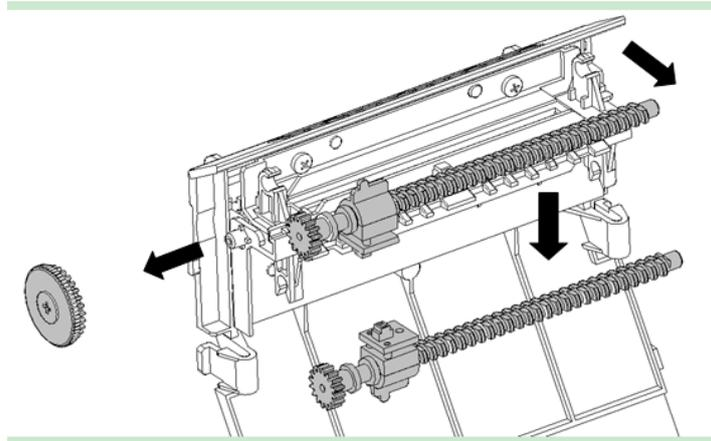

Figure 5.1-2 Cleaning mark sensor
- 2) Remove the thumb wheel shown in figure 5.1-2, and then remove the screw where the mark sensor is installed (refer to figure 5.1-2) and wipe off the dust or stains on the sensor surface with soft cotton cloth dipped with pure alcohol (it should be wrung out). Wait for 5 to 10 minutes until pure alcohol evaporates completely, and then assemble it in the reverse steps. Check the cable